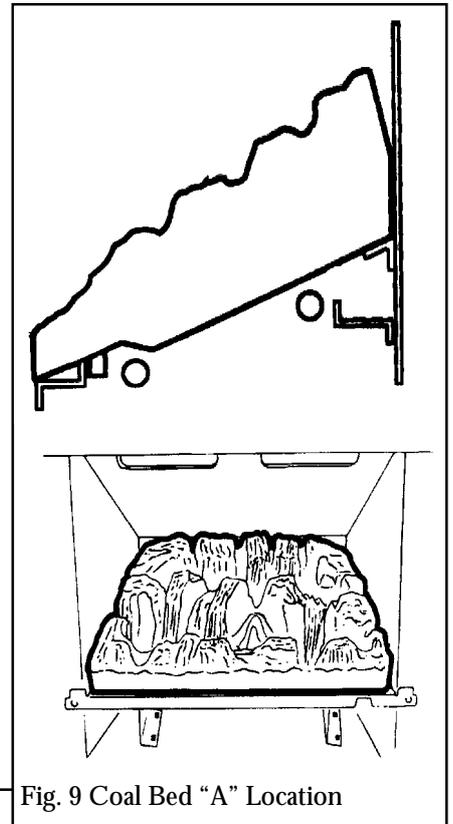

Fig. 9 Coal Bed "A" Location
**10.1.1** Locate the coal bed (embossed "A" on its underside) in the firebox. The back face should be against the rear of the firebox. The rear underside of the coal bed should rest on the ledge at the back of the firebox. The vertical face of the recess at the bottom front of the coal bed should be behind the black front cross rail of the firebox. The extreme front of the coal bed should sit on the top edge of the cross rail - see figure 9.